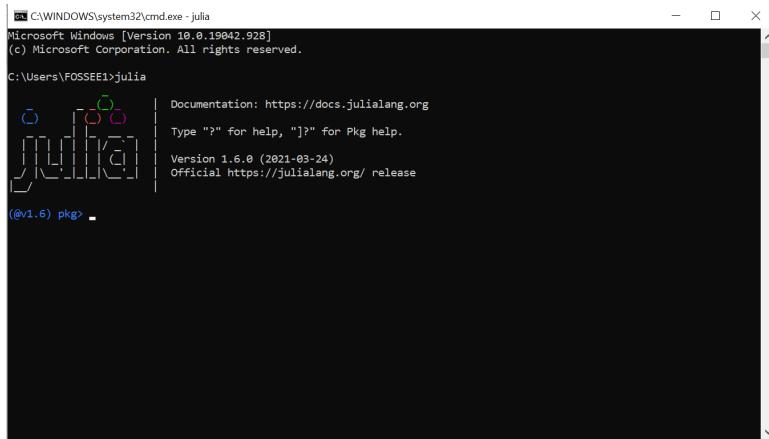

Figure 3.11: Windows command prompt to enter Pkg REPL in Julia
3. Now, we need to enter the Pkg REPL in Julia. From the Julia REPL, press `]` to enter the Pkg REPL. The moment you press `]`, you enter Pkg REPL, as shown in Fig. 3.11.